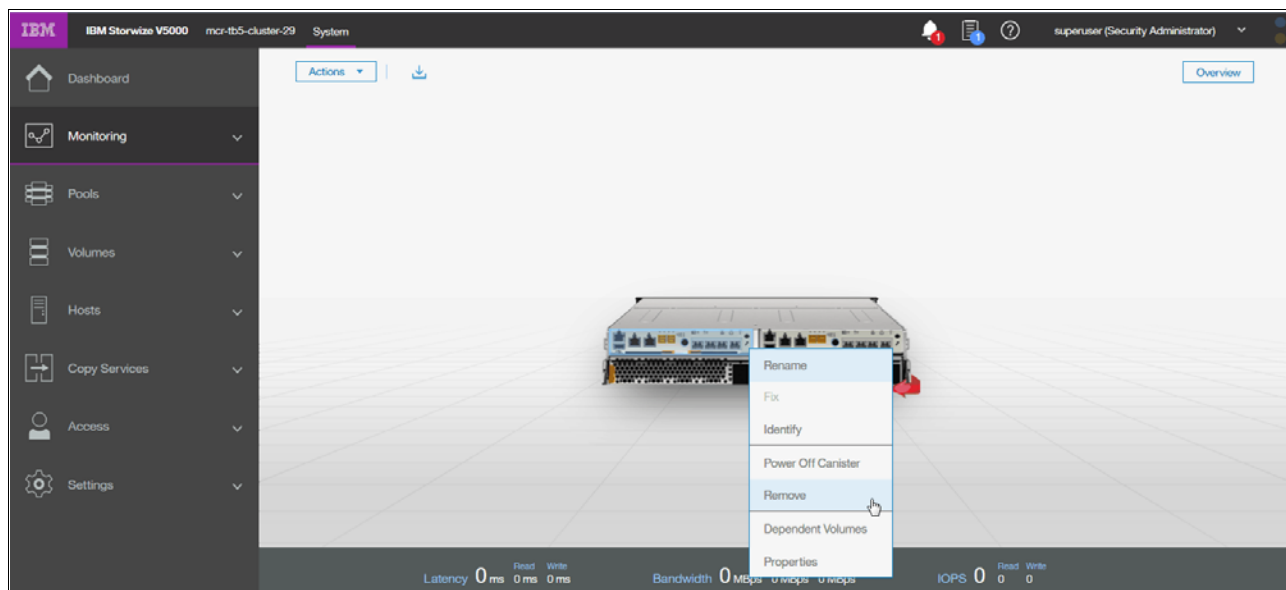

Figure 12-50 Removing a node canister
7. Right-click the canister that contains the node that you want to update and select **Remove**, as shown in Figure 12-50.